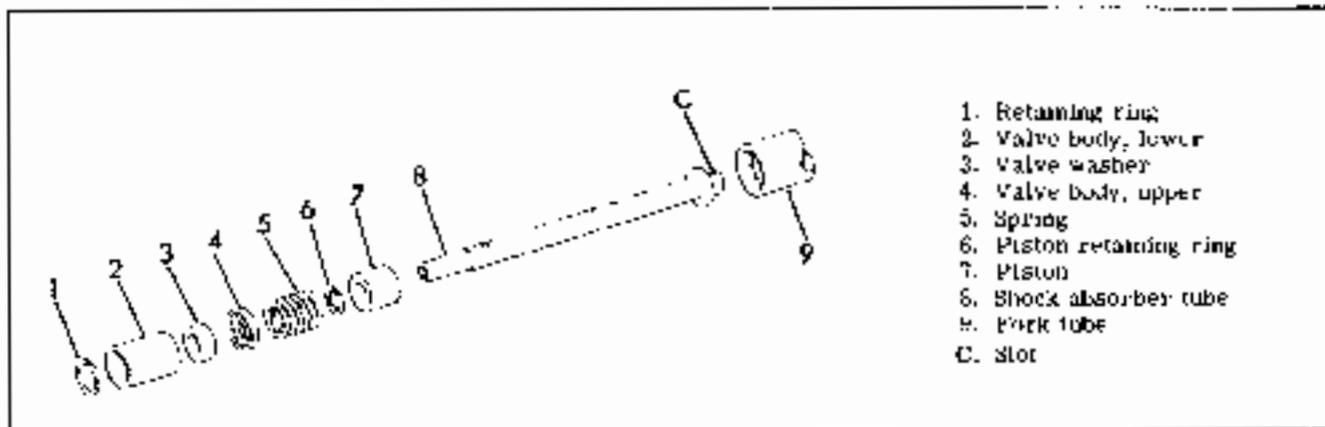

Figure 2-34D. Super Glide Front Shock Absorber Exploded View
If snubbing action of the front fork remains unsatisfactory, bottoms on compression, stops suddenly on recoil and does not operate smoothly after eliminating malfunctions previously covered, disassemble fork as described in "Disassembling Front Fork Shock Absorber." Inspect shock absorber giving particular attention to the following parts (see Figure 2-34D): Check fit of damper piston (7) in fork tube (3) and fit on shock absorber tube (8). Check seating of washer (4) on upper and lower valve body faces. Replace worn or damaged parts.
Remove front wheel and brake assembly as described in "Wheels," "Removing and Installing Front Wheel." Remove front fender and headlamp housing. Remove fork tube cap (1). Loosen fork tube pinch bolt (4). Remove fork side (6) complete. Use Wrench, Part No. 94894-52, (see Figure 2-66A) and disassemble retainer (7) from top of fork tube (8). Remove spring (9) and drain hydraulic fork oil from fork tube. Turn assembly upside down and remove bolt and washer (12). It may be necessary to insert Tool, Part No. 95991-69 or a long screwdriver into 3/32 wide x 1/2 long slot C (Figure 2-34D) in upper end of shock absorber tube to keep it from turning while removing bolt (12). Free slider (10) from tube (8).
DISASSEMBLING FRONT FORK SHOCK ABSORBER (Figure 2-34D)
ASSEMBLING FRONT FORK SHOCK ABSORBER (Figure 2-34D)